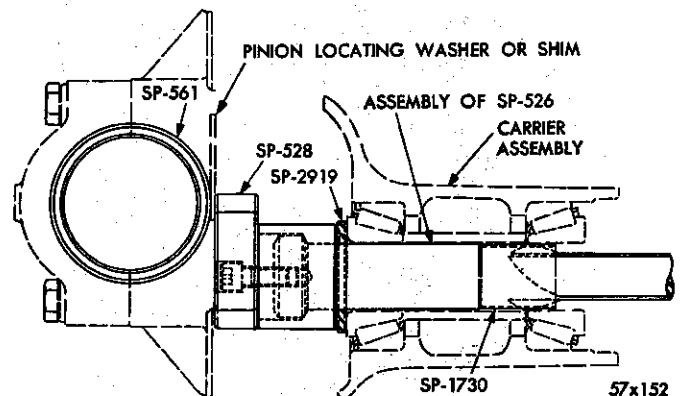

Fig. 18—Tool C-758 Installed in Housing—Model VC-1
(4) Position the original shims, previously removed from the drive pinion shaft, over the sleeve and slide the sleeve, bearing and shims over the tool main screw until the shims rest against the spacer (Fig. 18).